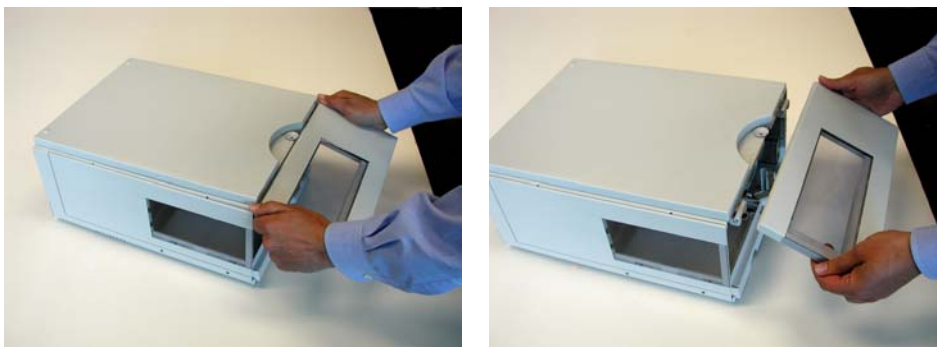

Figure 2 Removing the front door of the Autosampler
- 2 Remove the front door from the autosampler (see Figure 2).